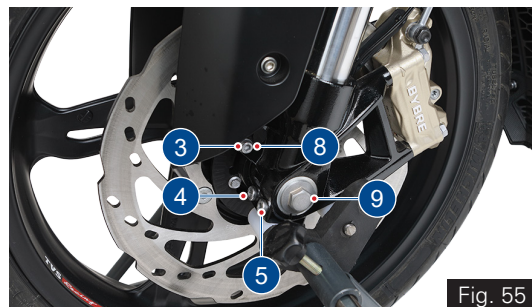

Fig. 55
- Remove the locking screw (3) (ref. Fig. 55).
- Loosen the right side clamping screws (4) and (5).
- Slightly press the quick-release axle (6) inward for a better grip on the right side.
- Mount the front wheel stand again and install the locking screw (3) with specified torque (ref. Fig. 55).